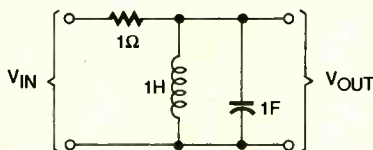

Fig. 6. Band-pass filters are designed to pass signals within a selected frequency band, while attenuating all others as much as possible.
**Band-Pass Filters.** The schematic diagram of the basic band-pass filter is shown in Fig. 6. The circuit in Fig. 6 is designed to pass a signal at the "center frequency," while attenuating signal frequencies above and below the center frequency. Such a filter could be used to reject unwanted signals at frequencies that lie outside of the "pass band," so it could be used where the frequency of interest must be extracted from a signal that has